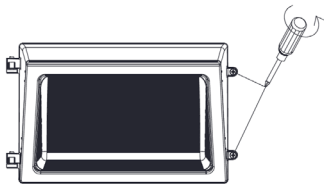

Fig. 1.1
1. Remove both screws on the side of the luminaire with a screwdriver. (Fig. 1.1)